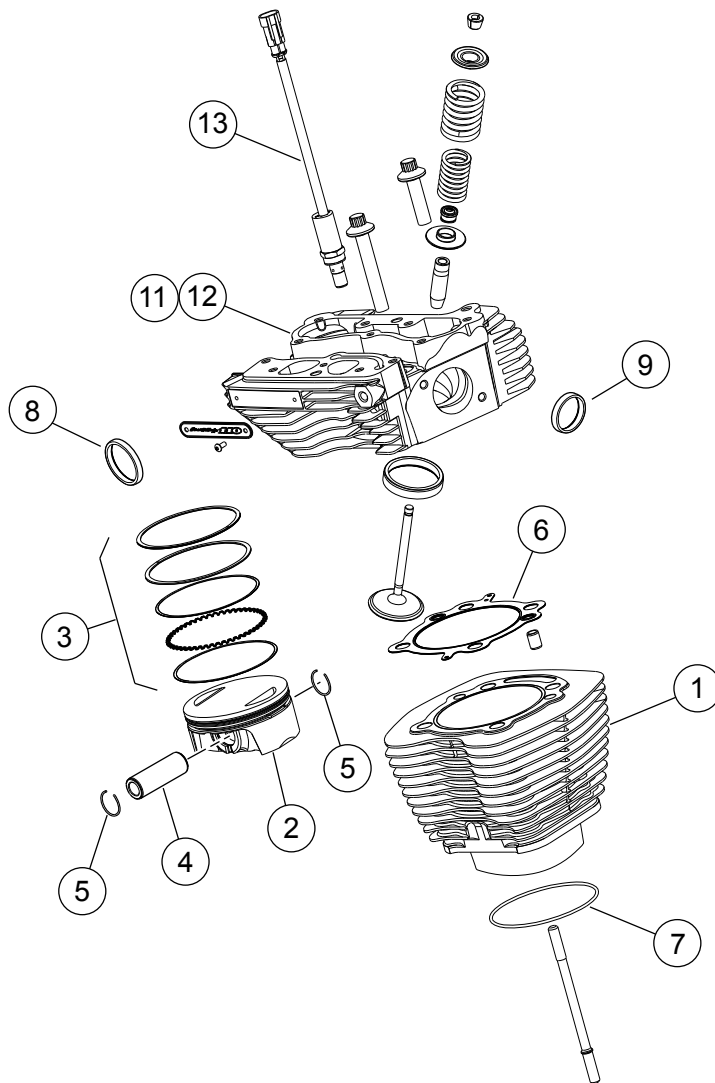
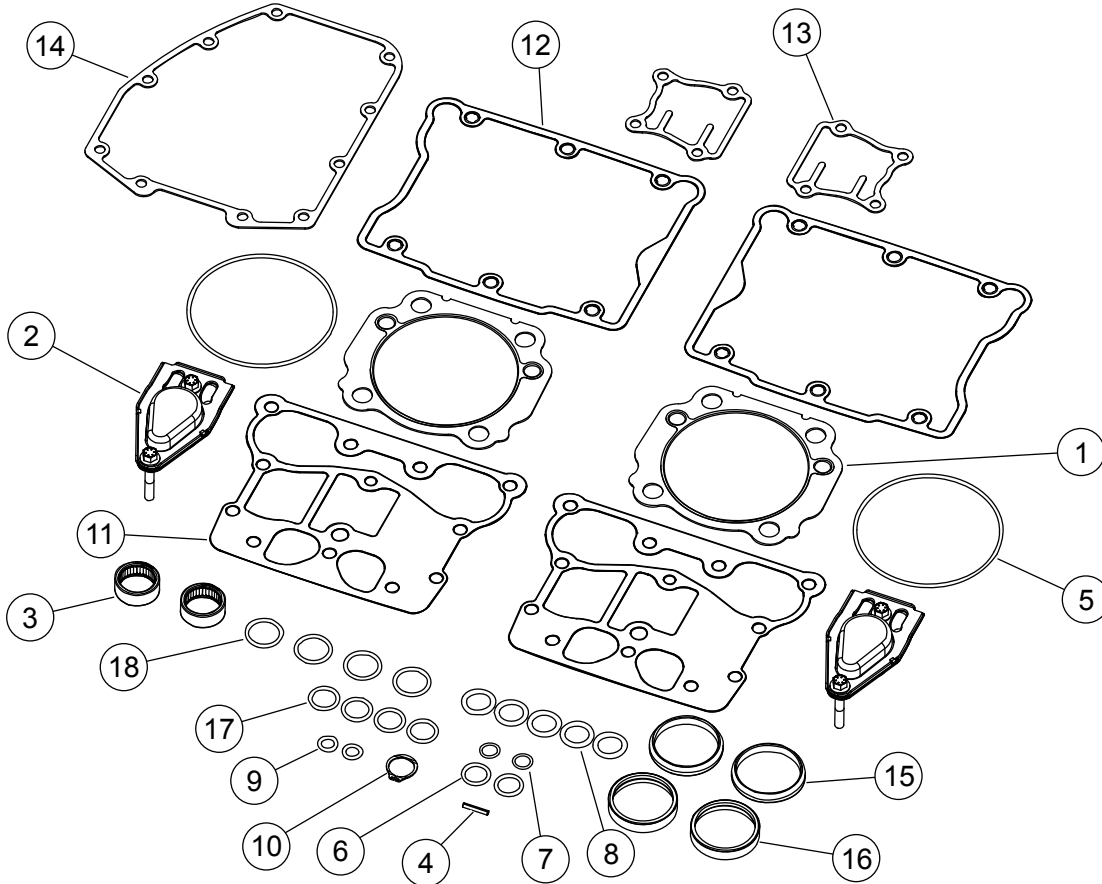

Figure 1. Service Parts: Screamin' Eagle Twin Cam 110 (1800 cc) Conversion Kit Bolt-on Conversion Kit
Figure 4. Service Parts: Screamin' Eagle Twin Cam 110 (1800 cc) Bolt-on Conversion Kit
See Figure 1 to Figure 4, and Table 1 to Table 4.
2. See Figure 1 through Figure 4. See the service manual. Assemble cams to cam plate and engine top end using parts from kit.